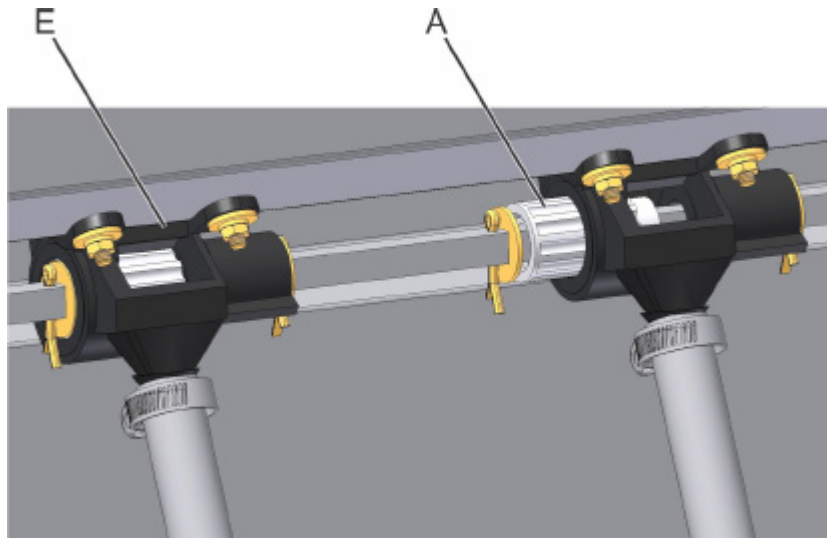
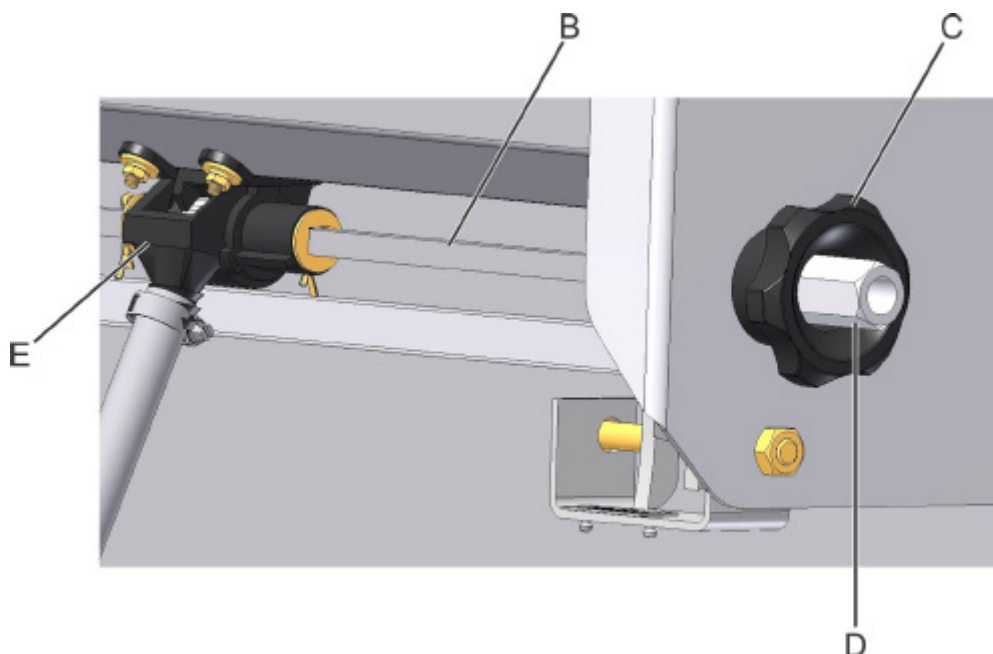

fig. 20
fig. 21
The distribution of small seeds is executed by a grooved rotor (A) (fig. 20), assemble din a Small Seed Doser Unit (E) (fig. 20/21), which is driven by a square shaft (B) (fig. 21), with the possibility of sliding on this shaft, establishing a greater or smaller quantity of seeds to be distributed.
The adjustment procedure is executed by the movement of the shaft (B) increasing or reducing the work opening of the rotors in the Doser Unit (E), through the handwheel (C) (fig. 21). To start the adjustment loosen the nut (D) (fig. 21), and after the seed dosage chosen, lock the system tightening the nut (D).